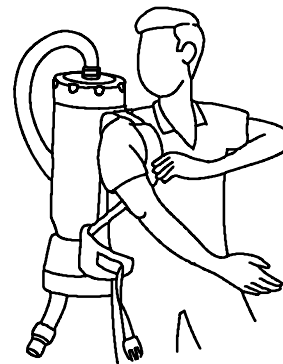

FIG. 4
6. Loosen the shoulder straps and waist belt. In an open area, lift the vacuum by one shoulder strap and slide your free arm into the other strap (Figure 4).